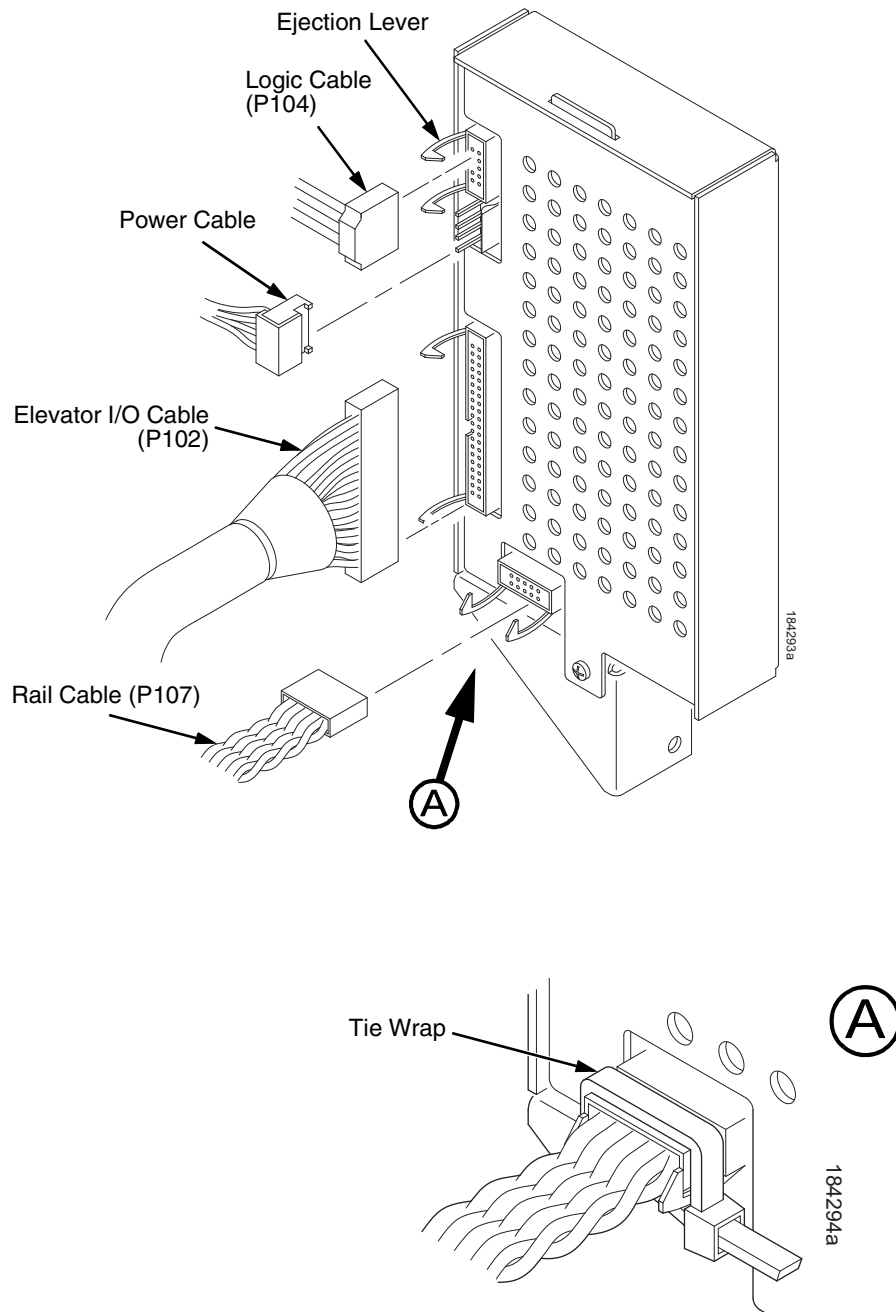

Figure 87. Stacker Control Panel Cables
22. Connect the stacker cables to the rear of the stacker control panel assembly and make sure the ejector levers close over the connectors. (Figure 87.)
23. Press rail cable connector P107 into the control panel until the ejectors close, then tie wrap the ejectors to the connector. (Figure 87, detail A.)